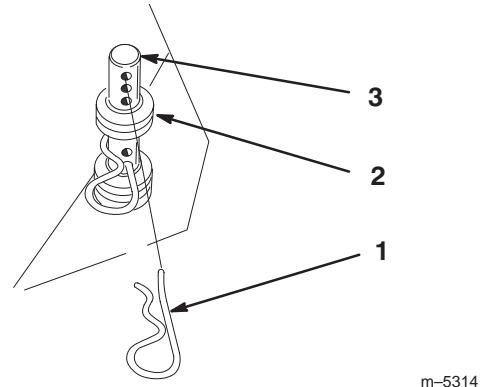

Figure 11
- On opposite side of muffler, install extra hairpin cotter pins into front and rear height-of-cut pins (Fig. 11).